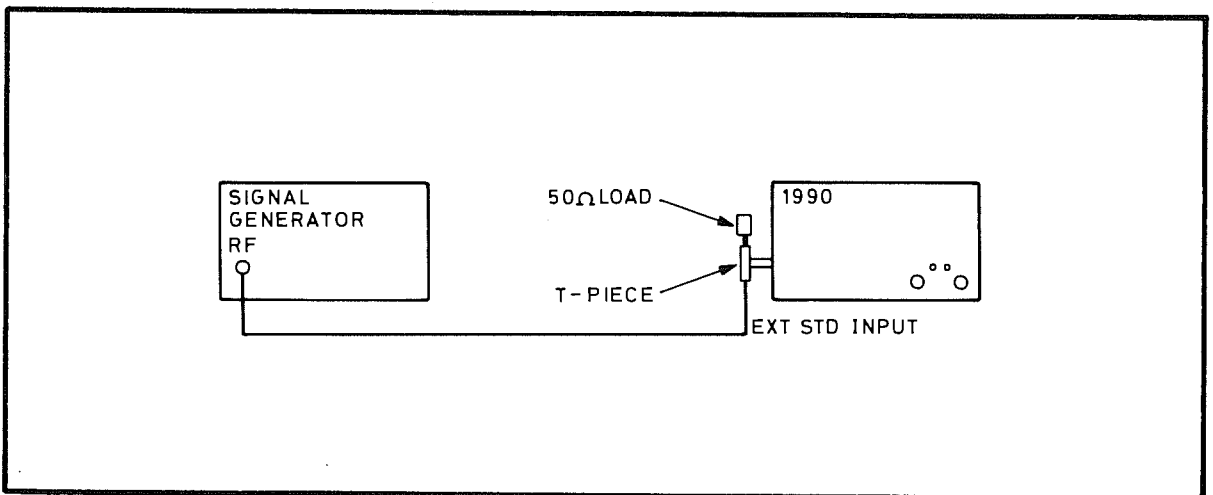

Fig 7.26 Connections for External Standard Input Sensitivity PVP
68 (1) Connect the equipment as shown in Fig 7.26.